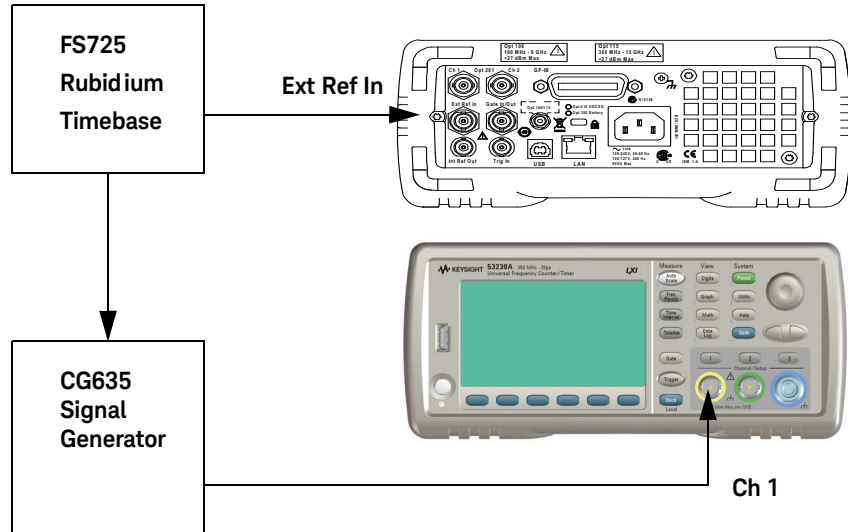

Figure 1-5 Test Setup for Single Period
- 1 Connect the equipment as shown in Figure 1-5.